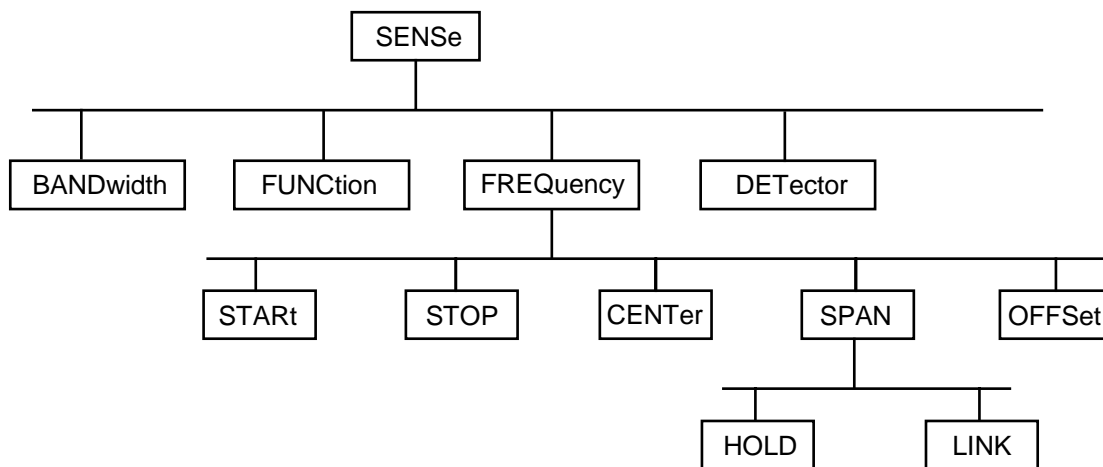

Fig. 5-1 Tree structure the SCPI command systems using the `SENSe` system by way of example
Fig. 5-1 illustrates this tree structure using a section of command system SENSE, which controls the sensor functions of the devices.
**Hierarchy:** Device-specific commands are of hierarchical structure (see Fig. 5-1). The different levels are represented by combined headers. Headers of the highest level (root level) have only one key word. This key word denotes a complete command system.
If the successive commands belong to the same system, having one or several levels in common, the command line can be abbreviated. To this end, the second command after the semicolon starts with the level that lies below the common levels (see also Fig. 5-1). The colon following the semicolon must be omitted in this case.